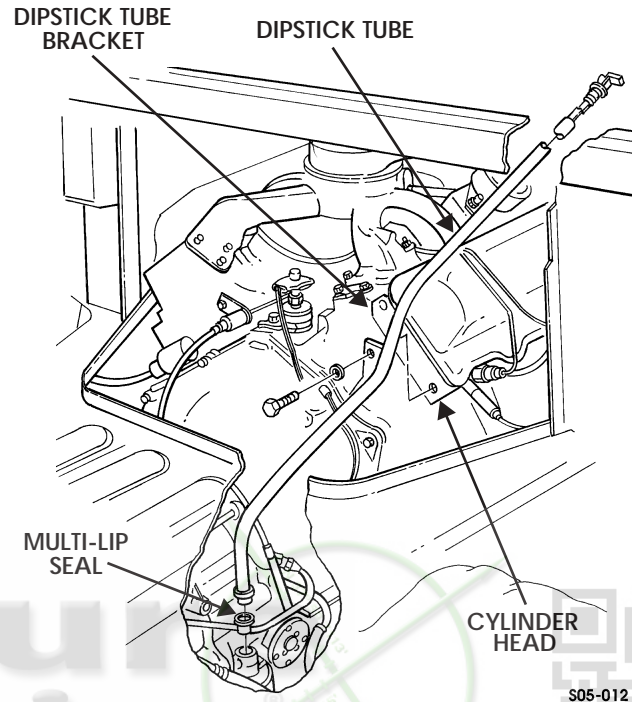

Figure 5-72: Dipstick Tube
20. Install multi-lip seal and dipstick tube in transmission. Secure dipstick tube bracket to cylinder head with capscrew and washer. Tighten capscrew to 25-37 lb-ft (34-50 N•m) (Figure 5-72).